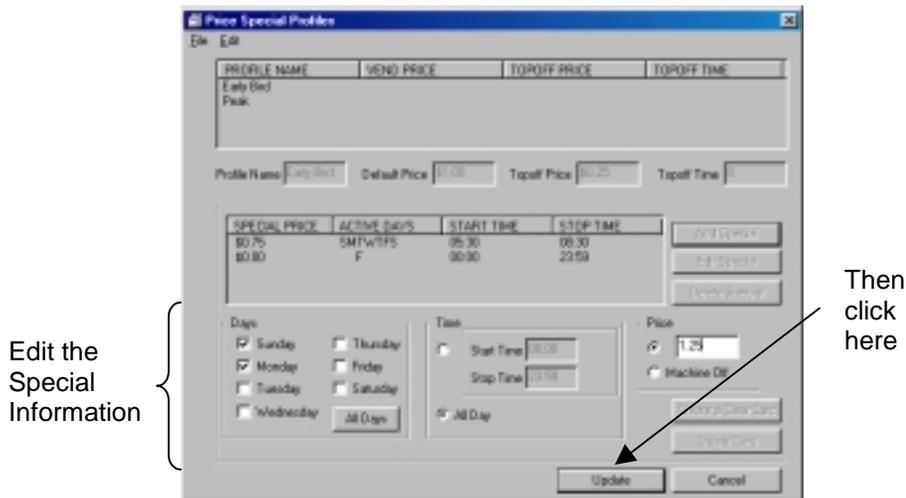

Figure 8.24 Editing the Special Information
4. Make changes to the Profile information (Figure 8.24).
5. Click the Update button (Figure 8.24)